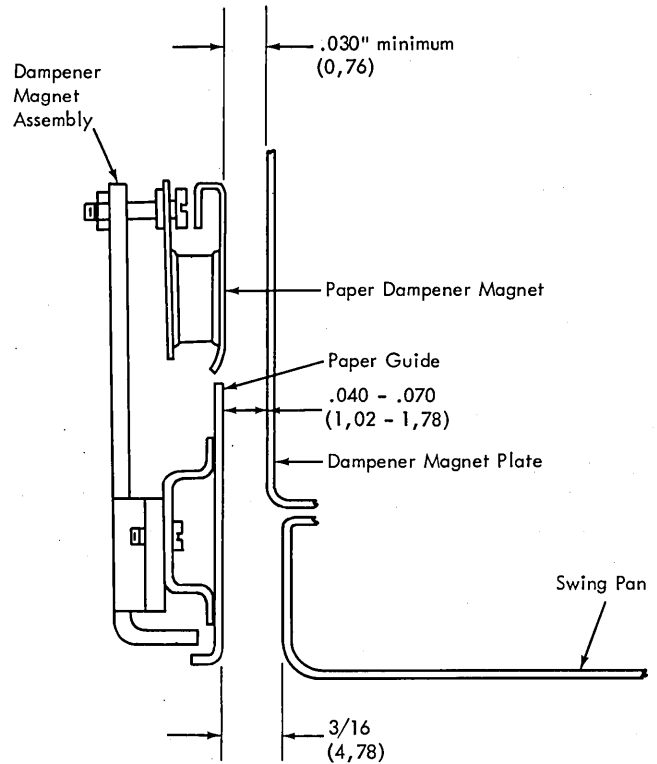

Figure 4-42. Electromagnetic Acoustical Dampener Adjustments
1. Locate the swing pan  $3/16 \pm 1/32$  in. ( $4,78 \pm 0,79$  mm) from the fixed paper guide on the paper dampener assembly (Figure 4-42) when the T-casting is latched closed.